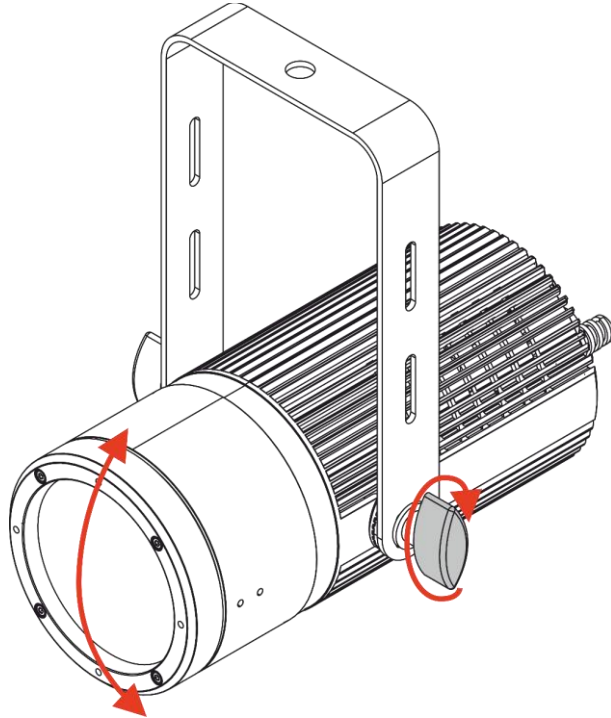

Fig. 10
- 01) Turn the **adjustment screws (03)** counterclockwise to release them.
- 02) Tilt the device at the desired angle (see Fig. 10).
- 03) Turn the **adjustment screws (03)** clockwise to tighten them. Make sure that the device cannot move freely after the **adjustment screws (03)** are tightened.